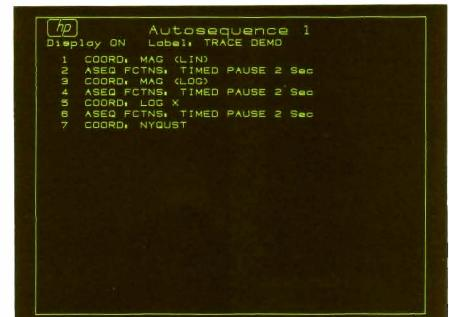

Figure 11-1
- 4. View Label** The label appears at the top of the Auto Sequence entry area, as shown in Figure 11-1, and on the Auto Sequence menu.